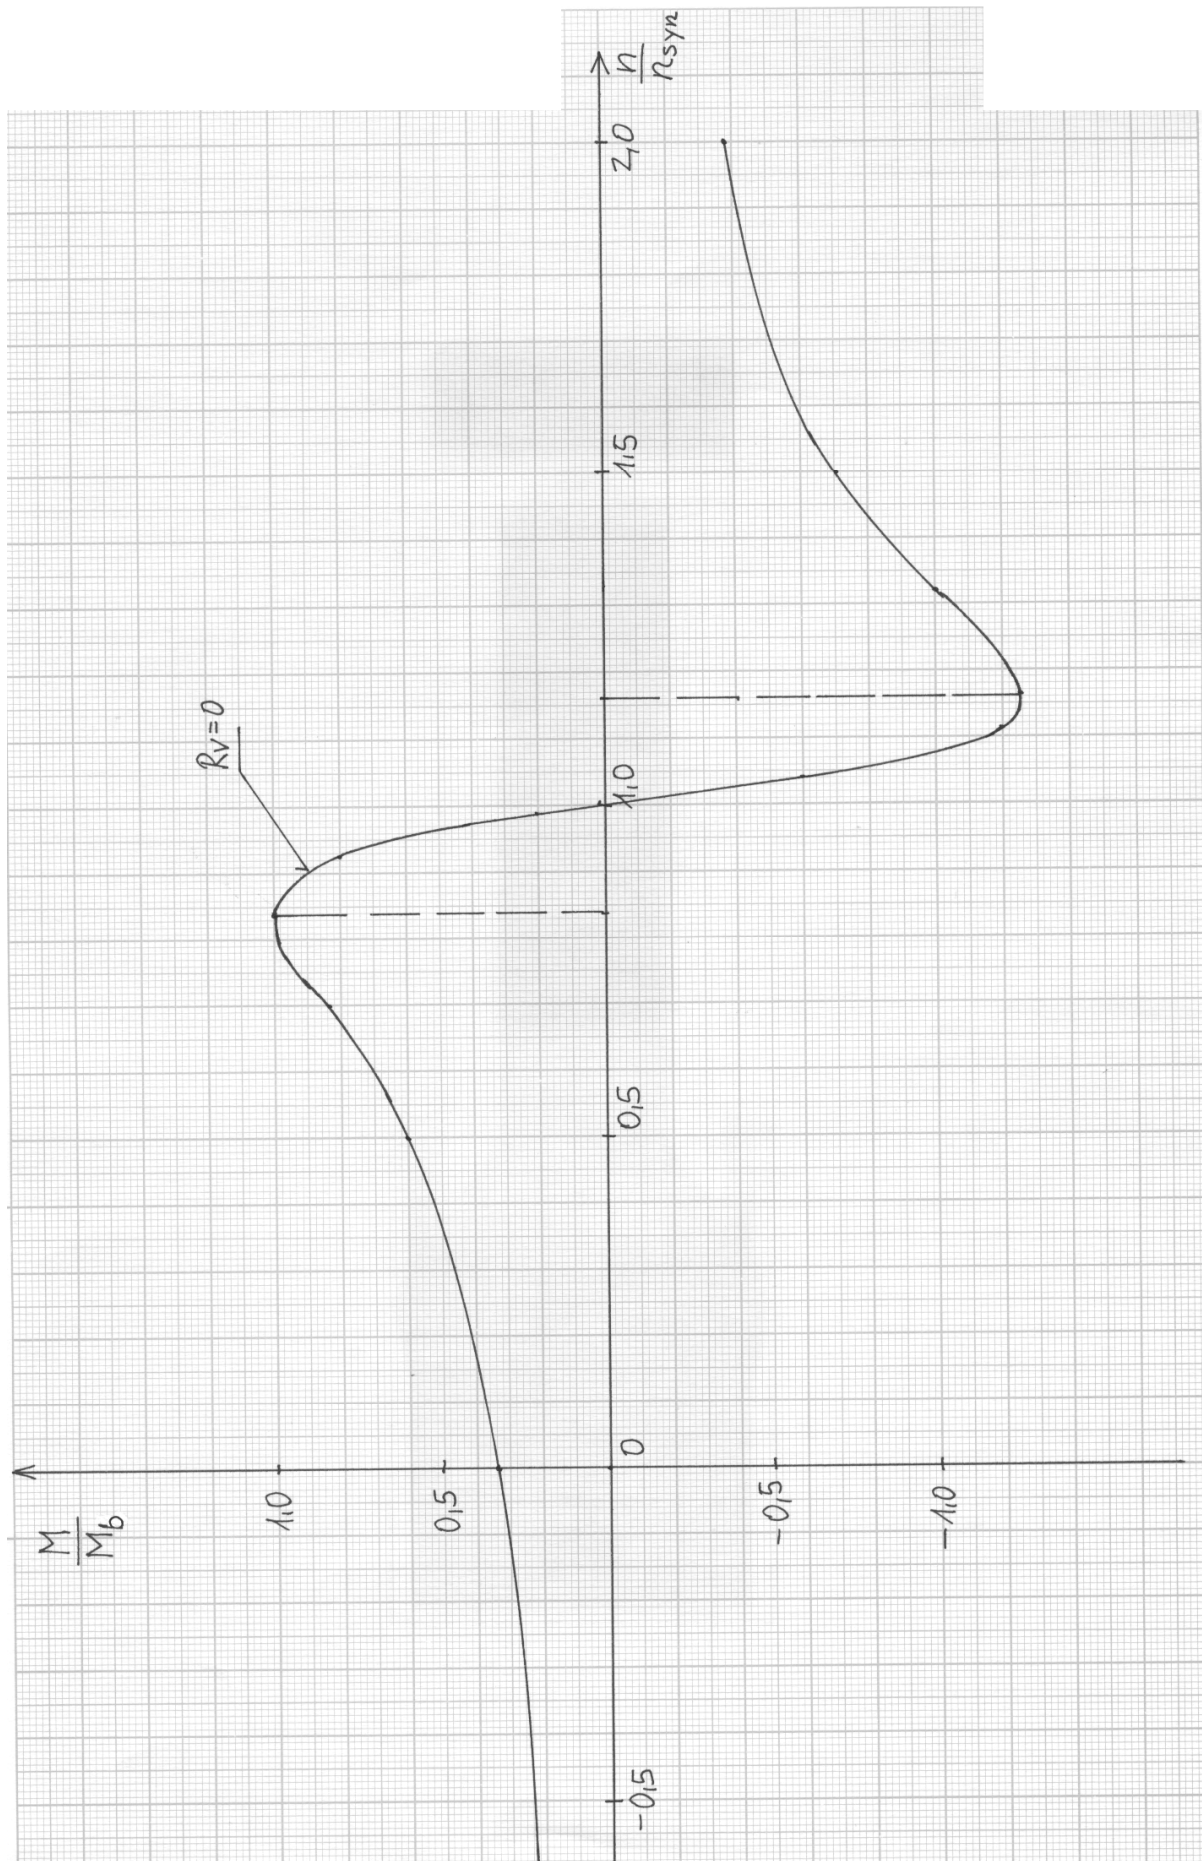
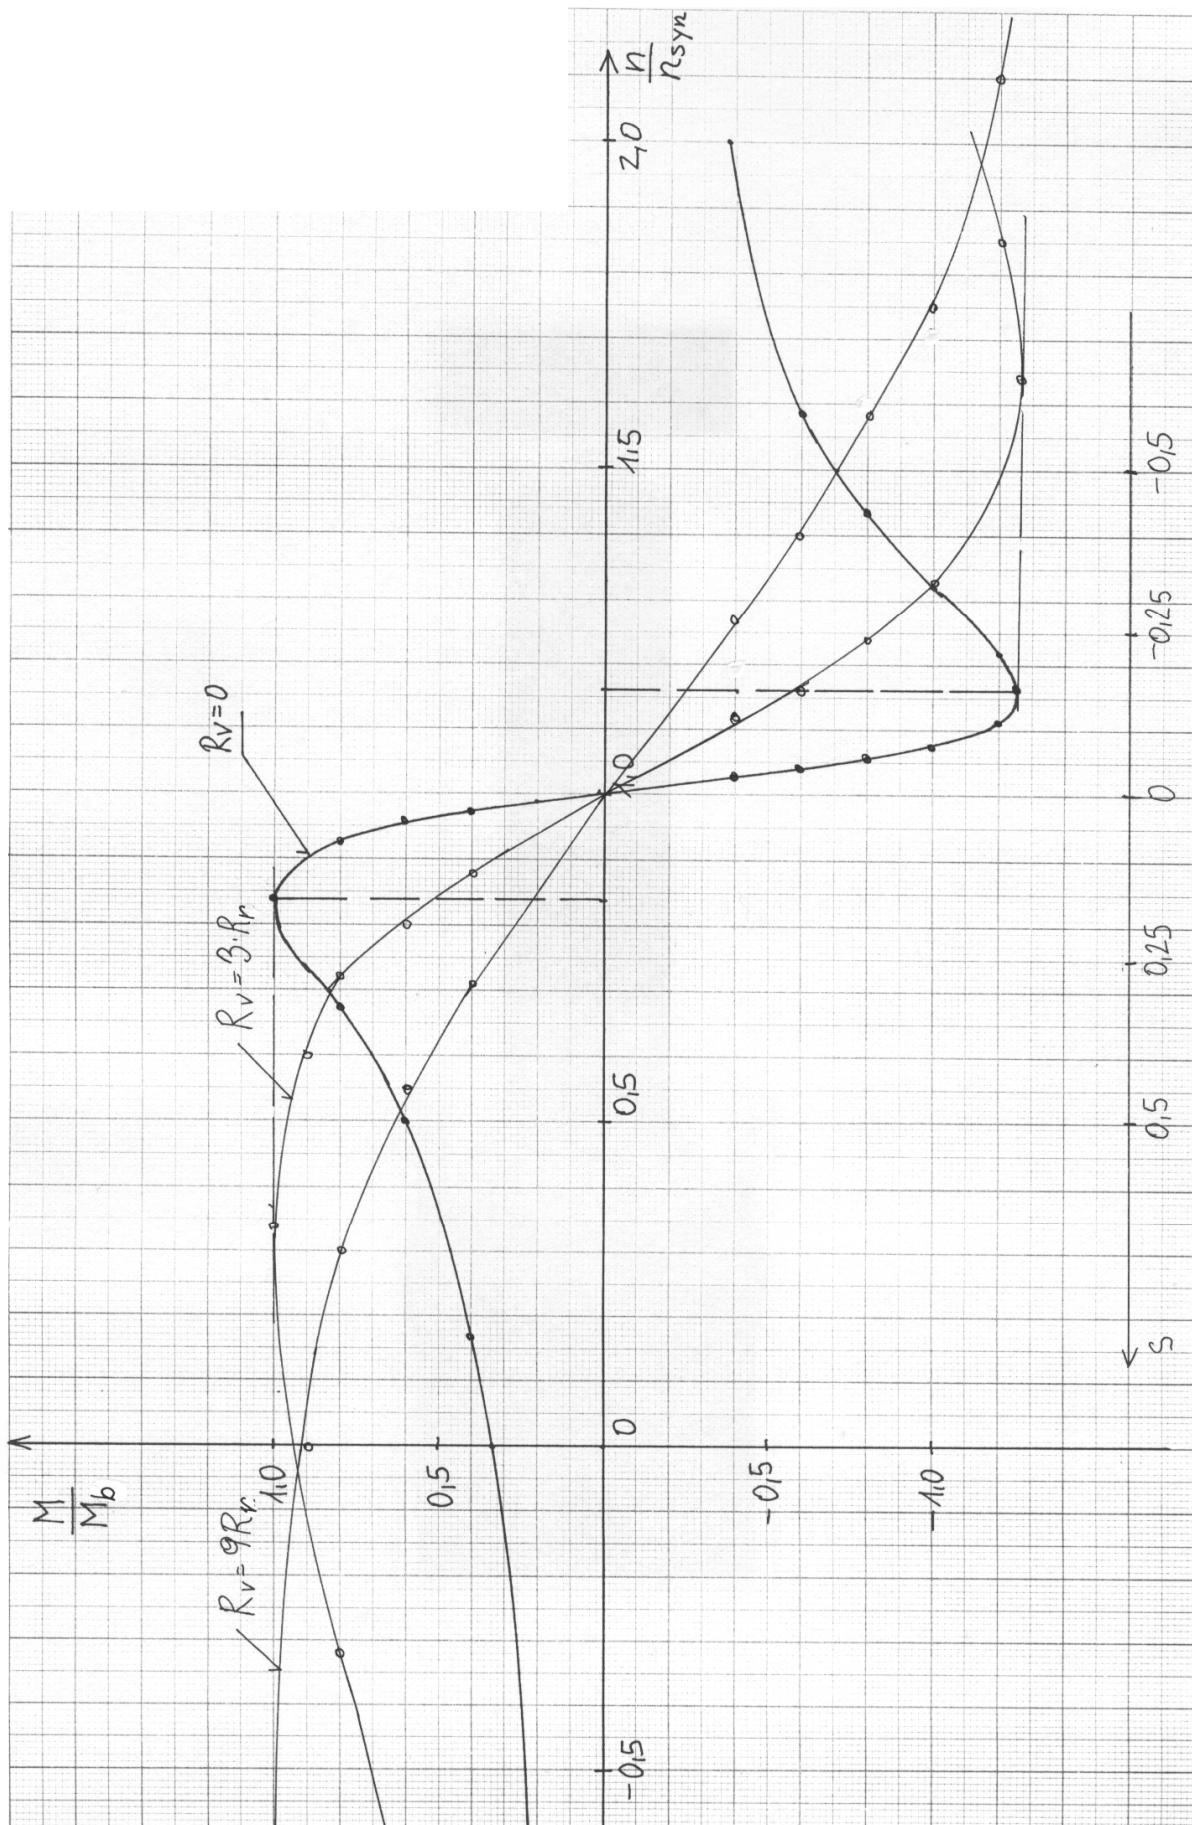

Fig. 2.1-1: Torque-speed-characteristic of fan blower motor in per-unit of break down torque and synchronous speed
Fig. 2.1-2: Torque-speed-characteristic of fan blower motor at  $R_v = 0$ ,  $R_v = 3R_r$ ,  $R_v = 9R_r$
In a steel work a three-phase asynchronous machine with slip-ring rotor is used driving the fan blower, which supplies the blast-furnace with fresh air. In Fig. 2.1-1, the torque-speed characteristic is given for the operation at rated voltage with short-circuited slip-rings.
Take torque from Fig. 2.1-1 at slip  $s$ , and put it at slip  $s^*$  in Fig. 2.1-2.
b)  $R_v = 9 \cdot R_r$ : Same procedure as in a), but with slip  $s^* = 10 \cdot s$ , see Fig. 2.1-2.